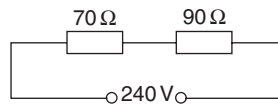

Fig. 25
8. Determine the value of a resistor which when connected in parallel with the 70Ω resistor will cause a total current of 2.4A to flow in the circuit of Figure 25.